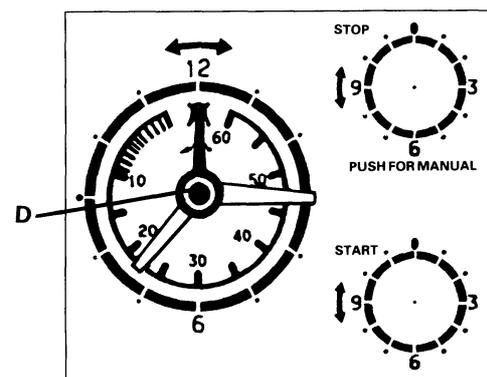

Fig. 3
Turn the control knob (D), without pushing it in, in a clockwise direction until the hand for the minute minder points to \otimes . See Fig. 3.